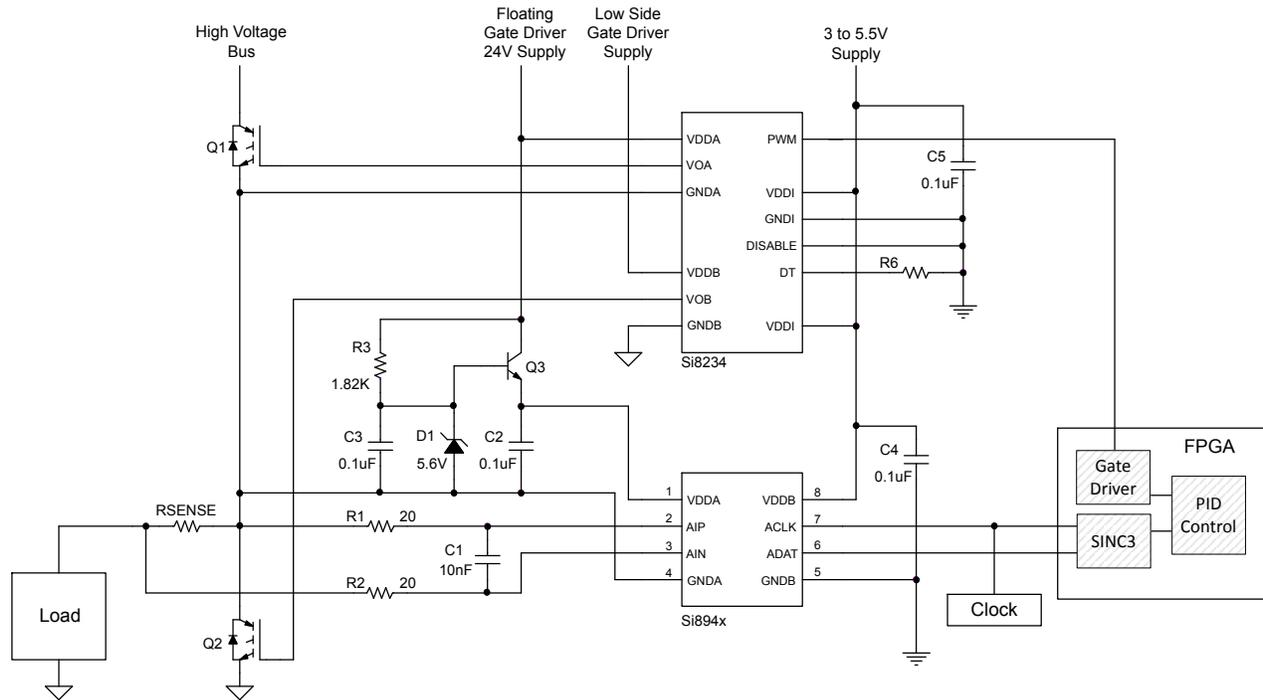

Figure 3.1. Current Sense Application
1. Average value of VCM = 0 with example circuit shown in Figure 3.1 Current Sense Application on page 6 .